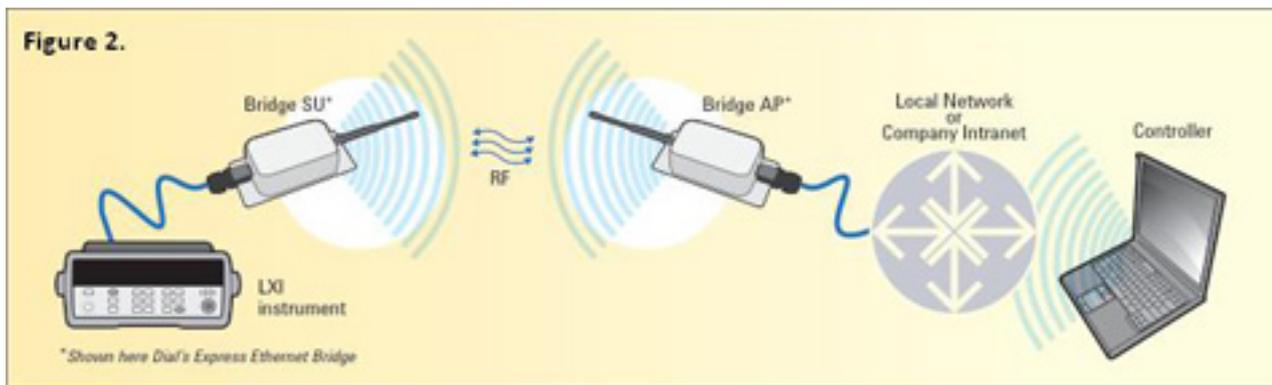

Figure 2. Long-range Ethernet bridge setup.
- Using a Long-range Ethernet bridge: Consists of two or more transceivers that each connect to an Ethernet network. The transceivers typically use a 900-MHz ISM-band communication protocol. The bridge setup is shown in Figure 2.